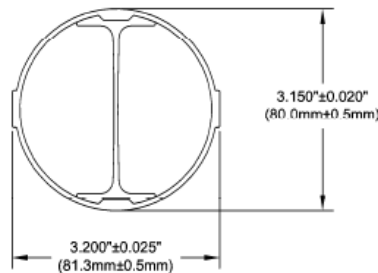

Figure 5-3 – Acceptable Limits
3.3 Inspect the skidtube assembly for serious damage in any of the areas indicated by "X" in Figure 5-2. NOTE: Serious damage is defined as follows: - cracks that exceed 0.25" (6.4 mm) in length - localized denting deeper than 0.015" (0.4 mm) - skidtube dimensions beyond the limits shown in Figure 5-3 (adjust limits for corrosion/wear as described in item 5.2.1 above)